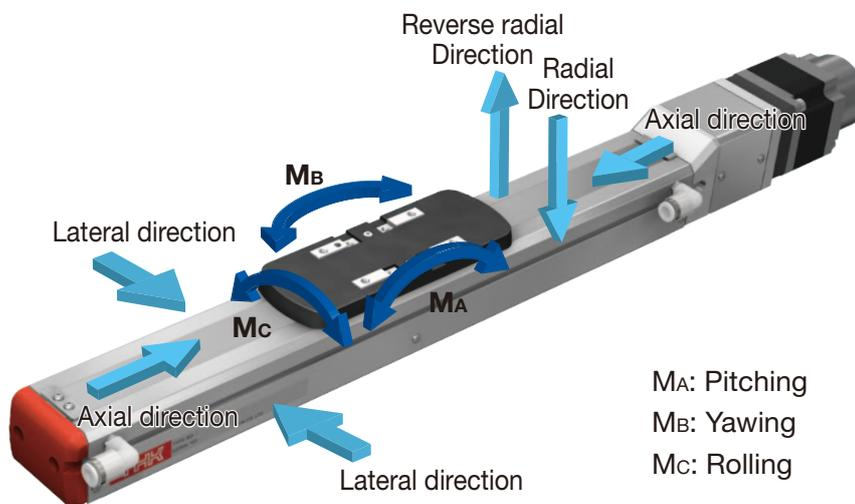

Fig. 4 Imposed load ratio and moment direction
- Static permissible moment is shown in Table 6. For the direction of the moment, see Fig. 4. (The static moment is the value when a load is applied only to one direction.)
- Static permissible load is shown in Table 7. For the direction of the load, see Fig. 4.